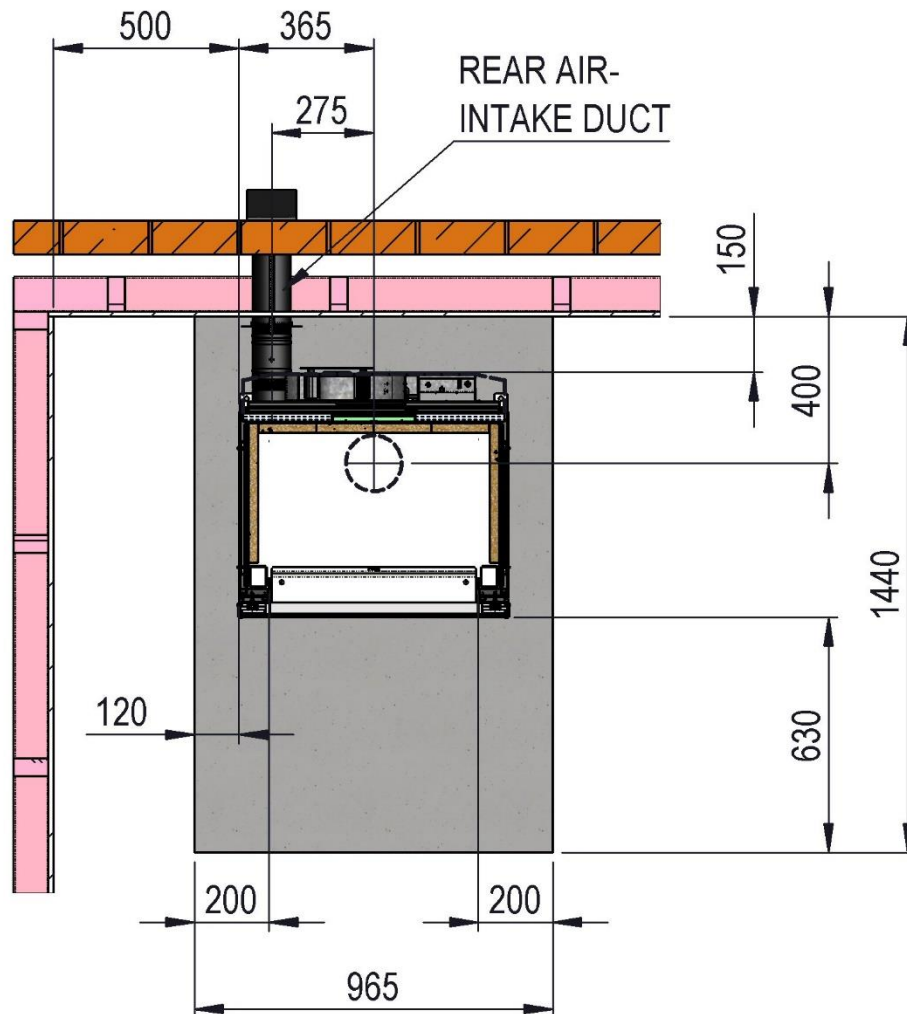

Fig 1 – Plan View – Olli Installed Parallel to Main Wall
5. Ensure that the flue will miss ceiling and roof support members. The minimum rear clearance for the Olli fire is 150mm from the wall to the fan housing, at the rear of the fire. If the fire is being set up parallel to the wall, this clearance will be achieved with a distance of 400mm from the wall to the centre of the flue. (See Fig. 1 below).